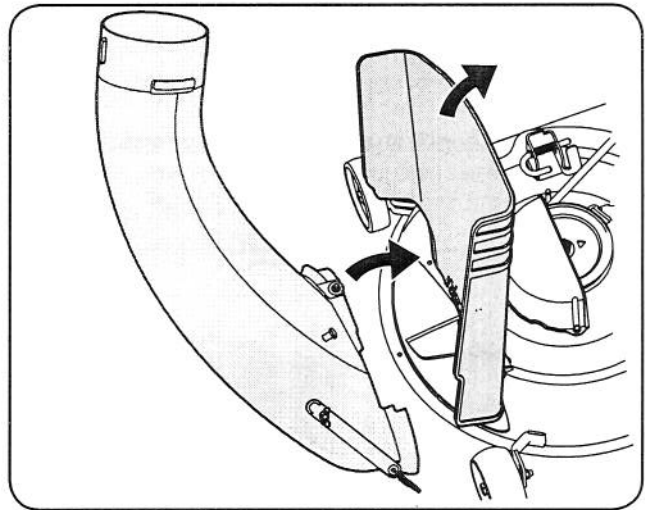
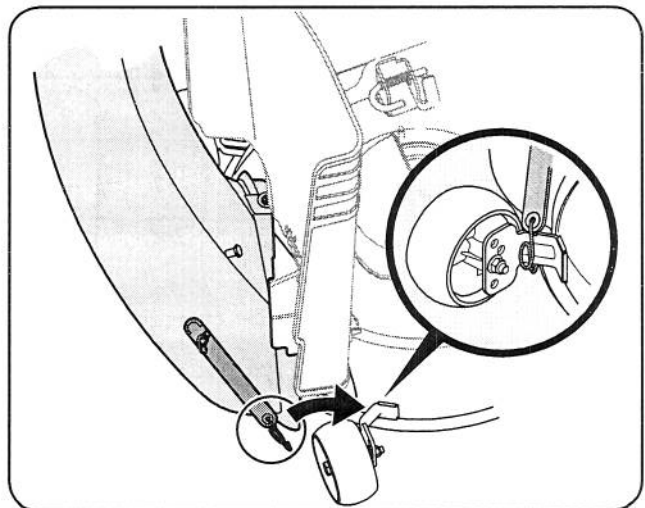

Figure 4-23
Figure 4-24
14. With the tractor's discharge chute raised up and held open, install the chute elbow over the chute opening by placing the deck mounting pin in the hole provided, as seen in Fig. 4-23, then secure the elbow to the deck by hooking the retainer strap torsion spring hook over the deck wheel mounting bracket as seen in Fig. 4-24.